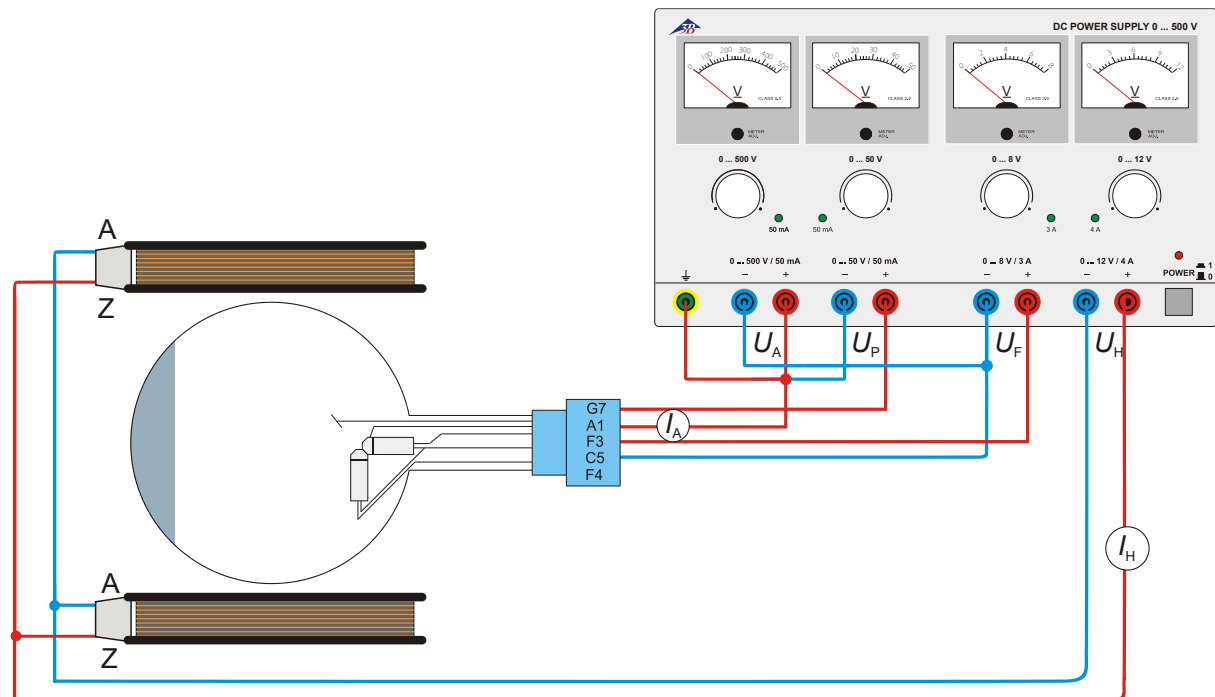

Fig. 3 Determining  $e/m$  using the axial electron gun
- Connect the tube as in Fig. 3.